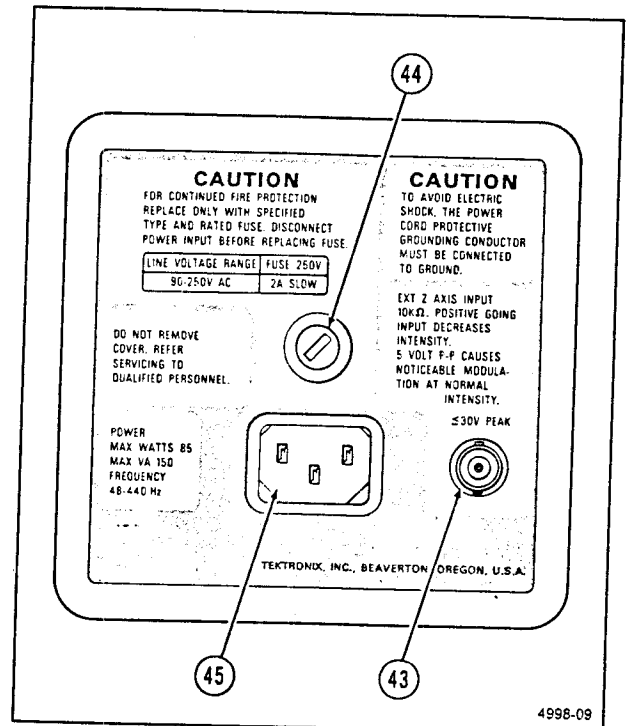

Figure 2-9. Rear Panel.
Refer to Figure 2-9 for location of items 43 through 45.
- ④3 **EXT Z-AXIS Input Connector**—Provides an input connector allowing external signals to be applied to the Z-Axis circuit to intensity modulate the NON STORE waveform display. Applied signals do not affect the display waveshape. External signals with fast rise and fall times provide the best defined intensity modulation. Noticeable intensity modulation is produced at normal viewing intensity levels by a 5 V p-p signal. The Z-Axis signals must be time-related to the trigger signal to obtain a stable intensity-modulation pattern on the displayed waveform.